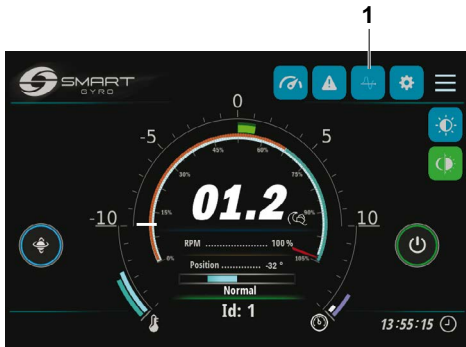

Figure 25
- By pressing the Roll icon (Figure 25, (1))